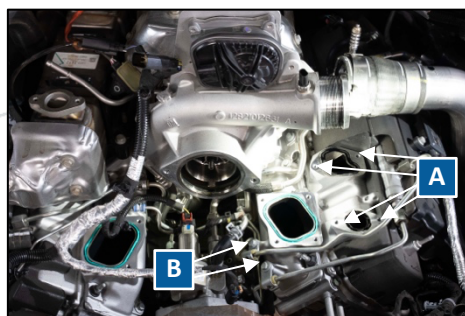

Figure 25: PCVOS Removed
- b. 8mm hex head bolt from base x4 (bolt holes labeled as A in Figure 25).
44. Remove line set hold down, 10mm hex head bolt x 2 (labeled as B in Figure 25).